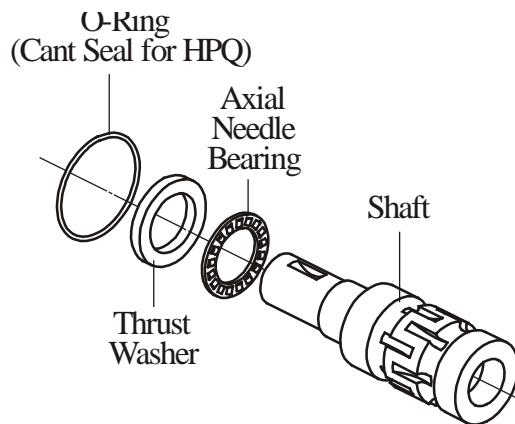

Fig.6
12. Remove thrust washer and needle bearing from shaft (see Fig.6).